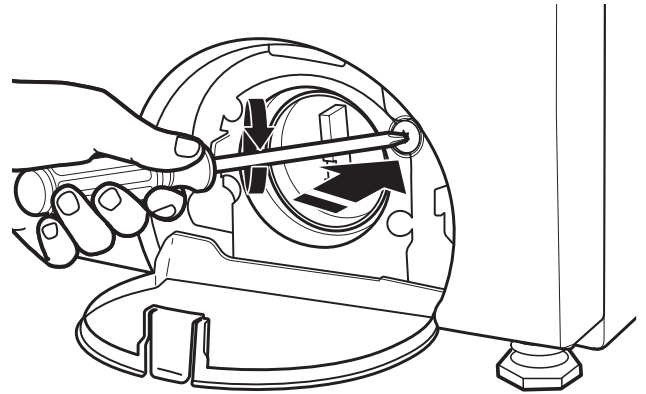

Figure 3
3. Secure the plastic strap by replacing and tightening the Phillips head screw removed in Step 1 through the hole in the strap. (See Figure 3.)